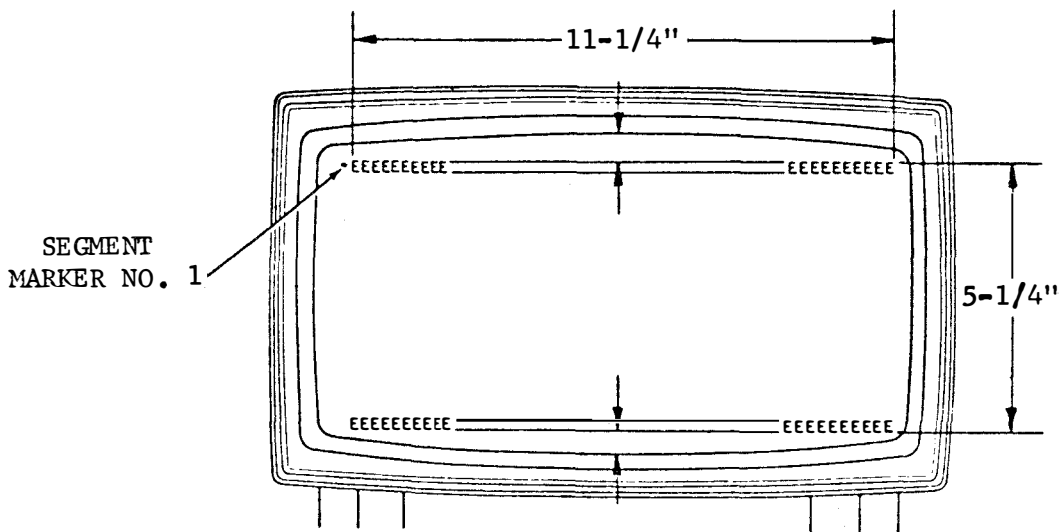

Figure 4
3. Operate the keyboard to display a series of E's on the top and bottom lines of the display area (Figure 4). Adjust brightness and tube tilt to personal preference.